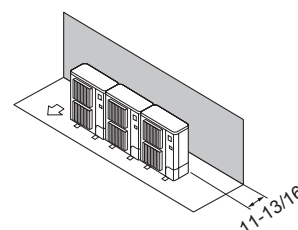

Fig. 2-11
① Obstacles at rear (Fig. 2-11)